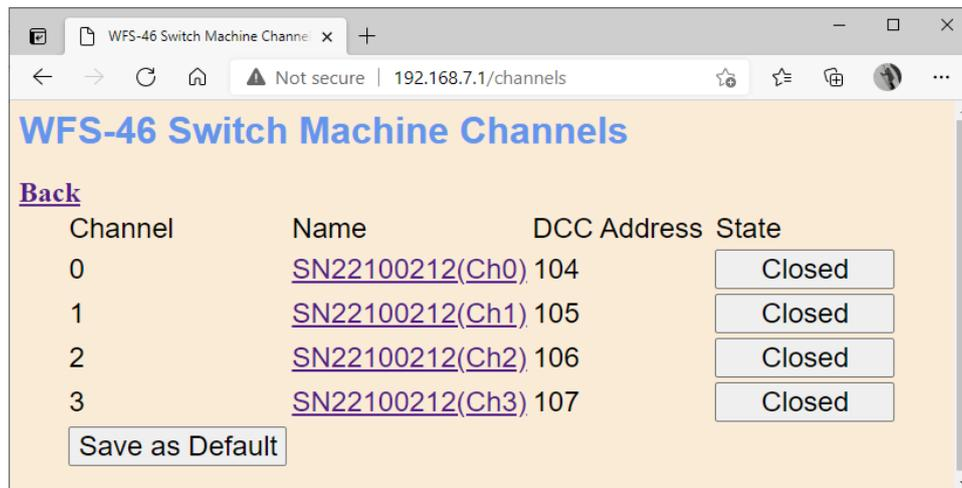

Figure 8 WFS-47 Web Pages – Switch Machine Channel List
- (3) To test the switch machine channels, click or tap the Switch Machine Channels option. You will see the screen in Figure 8. The names of each channel default to the serial number plus the channel number as shown. You can change these names later.